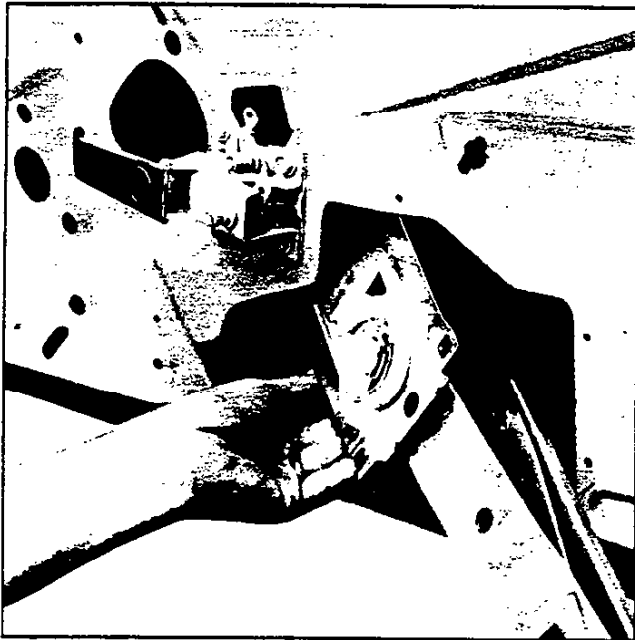

Fig. 29—Removing Window Regulator
11. While depressing front channel outward, slide regulator assembly forward and rearward to remove through access hole as shown in Figure 29.